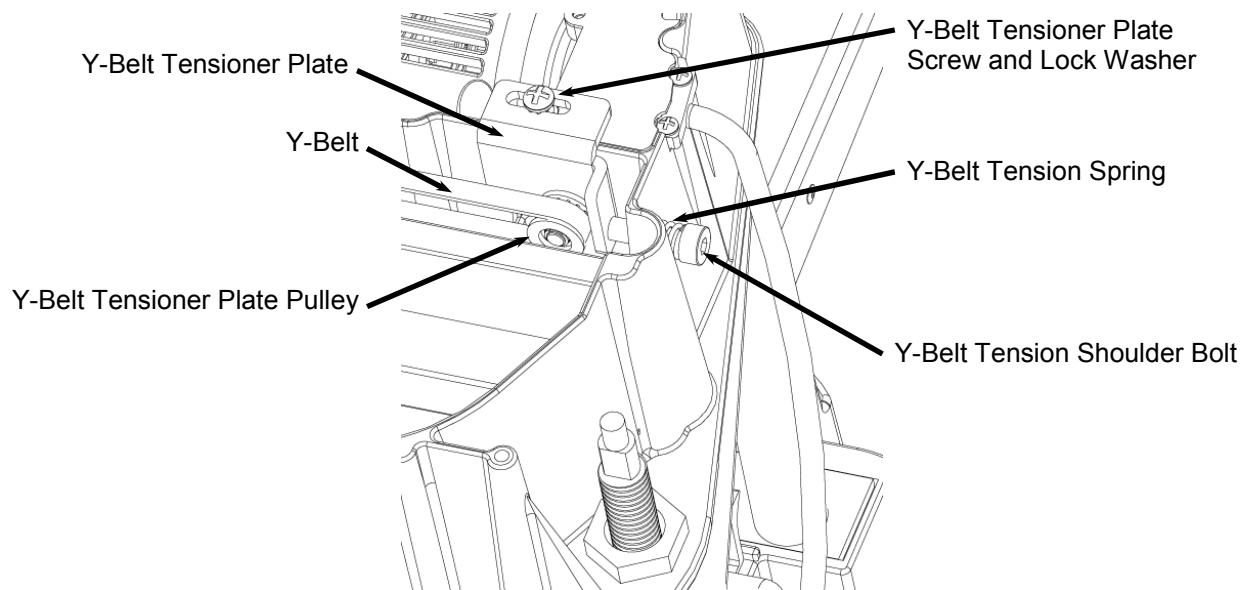

FIGURE 12: VIEW OF THE Y-BELT TENSIONER PLATE
3. **Re-tension the Y-truck belt:** In order to keep the truck in place while you tighten it, replace the Y-belt tensioning shoulder screw and spring with the 4mm Allen wrench (See Figure 12). This screw and spring set the tension on the belt to the correct level. Tighten the shoulder screw all the way down. Tighten the Y-belt tensioner plate screw.